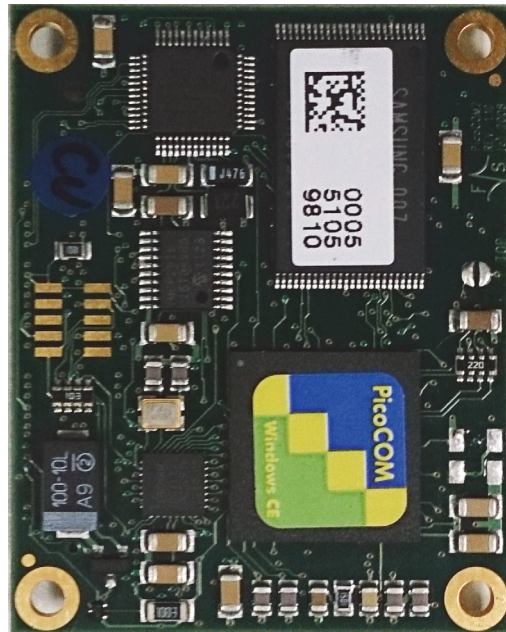

Figure 2 - The PicoCOM CPU module (to be removed)
1. Find the PicoCOM CPU module (see Figure 2), which is attached to the main circuit board of the face plate.